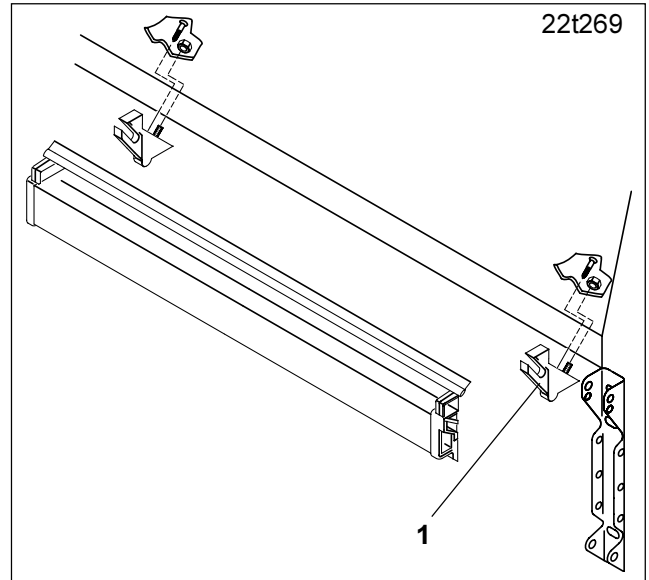

Fig. 10.17
- Remove the calibration tray carrier (Fig. 10.17/1)